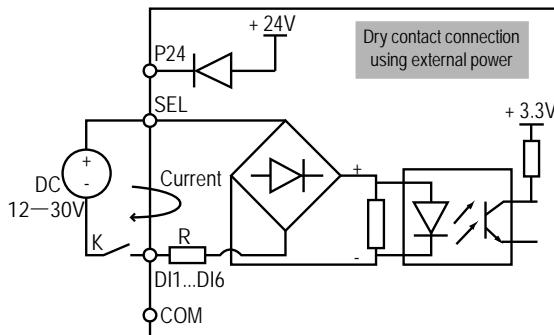

Figure 4-8 Dry contact connection when using external power
2. If the external power supply is used, the connection is as shown in Figure 4-8. (Note that the SEL and the P24 are not short-circuited)